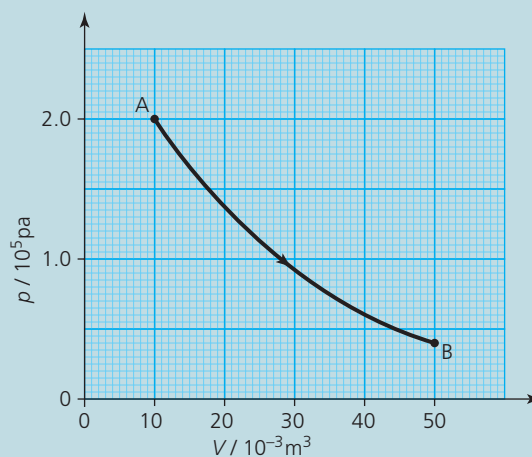

Figure 15
- 17.** A gas does work against the environment, and its pressure and volume change as shown in Figure 15. Estimate the work done by the gas.